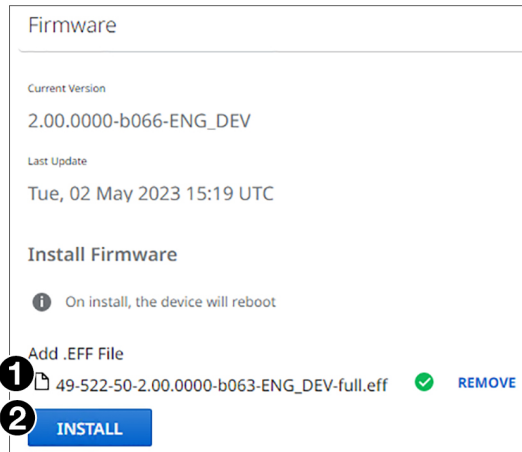

Figure 37. Firmware Update Dialog Box with a Firmware File Selected
3. Double-click the firmware file name. The Open window closes, and the firmware file name appears in the Update Firmware panel on the web page (see figure 37, ❶).
4. Click **Install** (see figure 37, ❷) to begin uploading the firmware. (If you want to cancel the update, click the X button in the upper-right corner of the Update Firmware panel.)